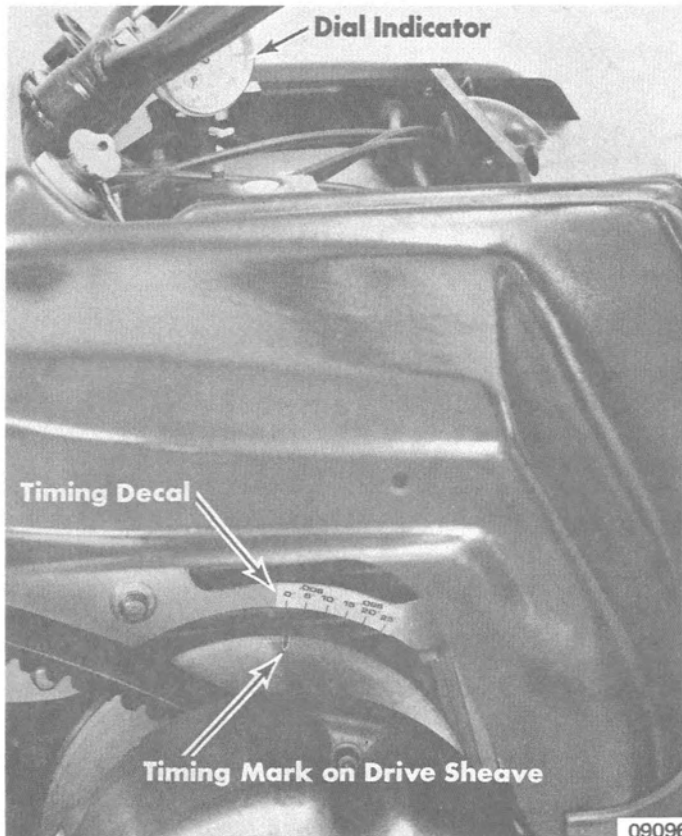

Figure 1. Dial Indicator and Timing Decal
3. Install Dial Indicator (C-91-58222A1) in No. 1 (rewind side) cylinder spark plug hole. (Figure 1)
5. With No. 1 piston at TDC, place a mark on edge of fixed face of drive sheave directly opposite 0° mark on timing decal. (Figure 1)